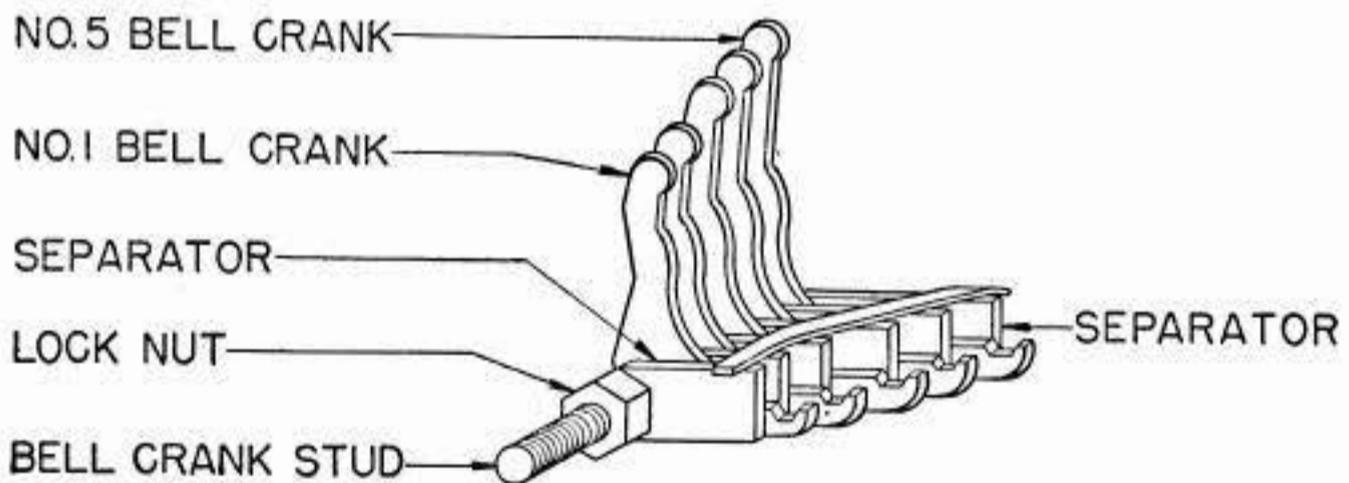

Fig. 13
2.16 **Lower vertical-link bellcrank separator plates** should meet the following requirements with the main bail in its lowermost position. **Fig. 13**